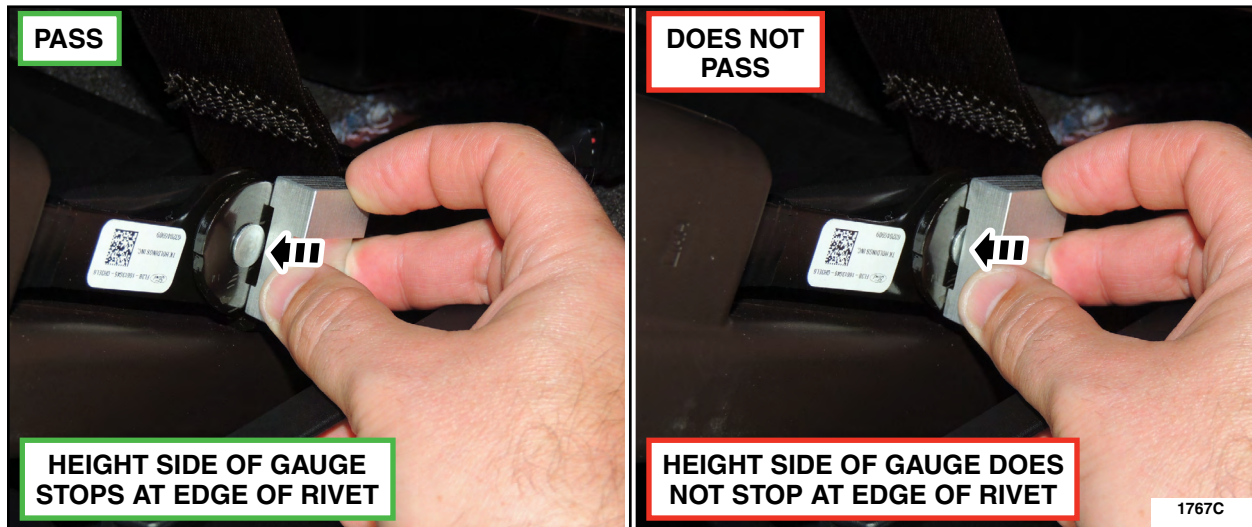

FIGURE 2
- a. Place the wide groove (height measurement) of the gauge flat against the outboard rivet head bracket. See Figure 2.